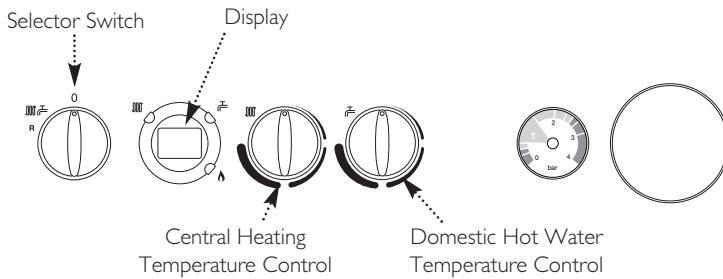

Fig. 55a
6. With the boiler operating in the maximum rate condition check that the operational (working) gas pressure at the inlet gas pressure test point (Fig. 55a) is in accordance with B.S. 6798 & B.S. 5482-1.